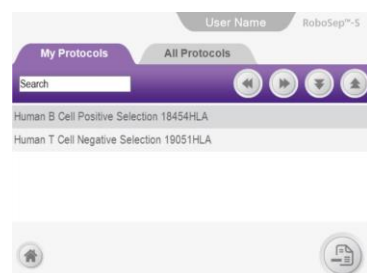

Figure 16. Protocols Screen. In this example, the My Protocol tab is selected.
RoboSep™-S organizes cell separation protocols into two tabs in the Protocols screen (Figure 16):
2. Select  [Protocols] on the Home Screen. The Protocols screen will appear (Figure 16).